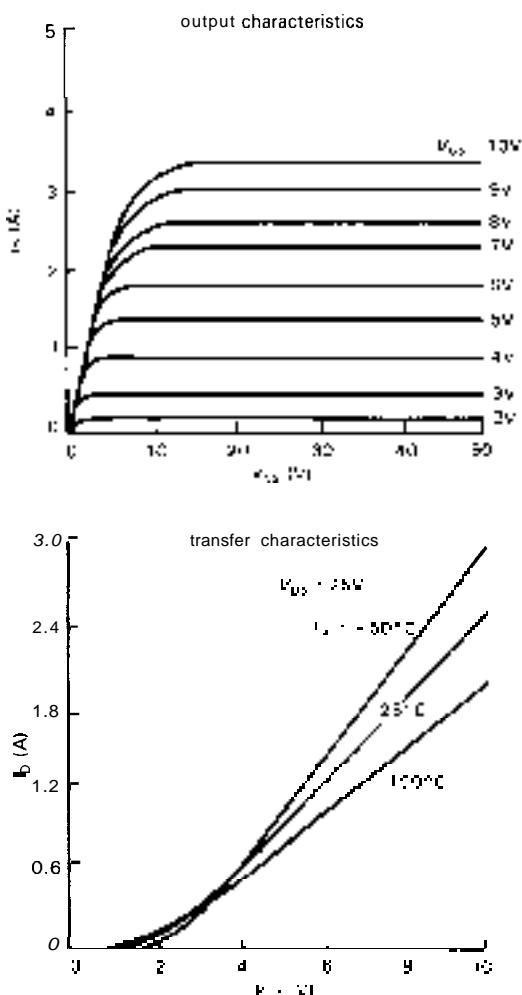

Figure 3.68. Drain characteristics of an n-channel low-threshold MOSFET (type TN0104).
1.5 volts (max)," which sounds fine until you read the fine print ("at  $I_D = 1\text{mA}$ "). It takes considerably more gate voltage than  $V_{GS(\text{on})}$  to turn the MOSFET on fully (Fig. 3.68). However, the circuit will probably work OK, because (a) a HIGH TTL output is rarely less than +3 volts, and typically more like +3.5 volts, and (b) the TN01 further specifies " $R_{ON(\text{typ})} = 5\Omega$  at  $V_{GS} = 3\text{V}$ ."